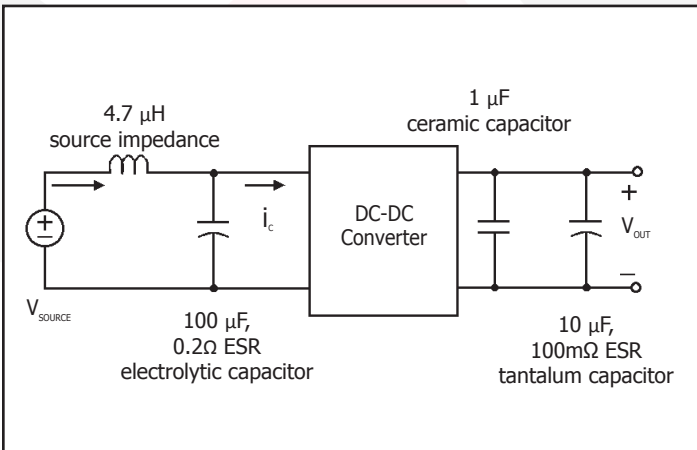

Figure 17: Test set-up diagram showing measurement points for Input Terminal Ripple Current (Figure 9) and Output Voltage Ripple (Figure 10).
Note 3: Recommended minimum output capacitance is defined in figure 17. The product will function without any external capacitance but may exceed the output ripple specifications.
**Figure 9:** Input terminal current ripple,  $i_c$ , at full rated output current and nominal input voltage with SynQor MCOTS filter module (200 mA/div). Bandwidth: 20MHz. See Figure 17. Time (1µs/div).
**Figure 10:** Output voltage ripple,  $V_{out}$ , at nominal input voltage and rated load current (50 mV/div). Load capacitors: 1µF ceramic and 15µF tantalum. Bandwidth: 20 MHz. See Figure 17. Time (1µs/div).